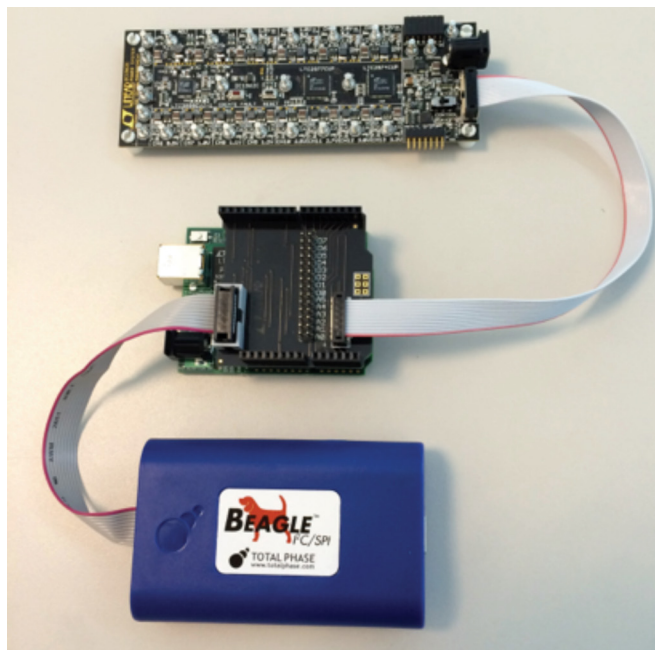

Figure 1. DC1962 (top), DC2026/DC2294A (middle) and Beagle (bottom). DC1962 and Beagle not included with DC2294A.
3. Place the DC2294A Linduino Shield on the DC2026 Linduino. All the pins should go into the corresponding sockets. Refer to Figure 1 for the correct orientation.
To observe PMBus traffic on the I²C bus, connect a Beagle to the DC2294A as shown in Figure 1 and follow these steps: